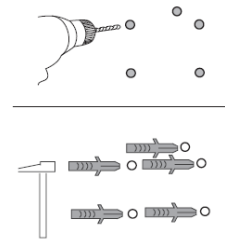

Figure 3
6. Drill 5 holes at marked locations and insert 5 plastic anchors into drilled holes (Fig. 3).